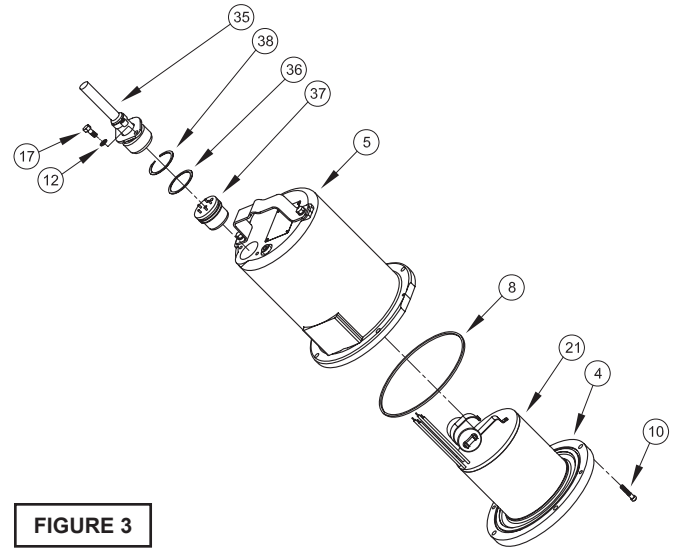
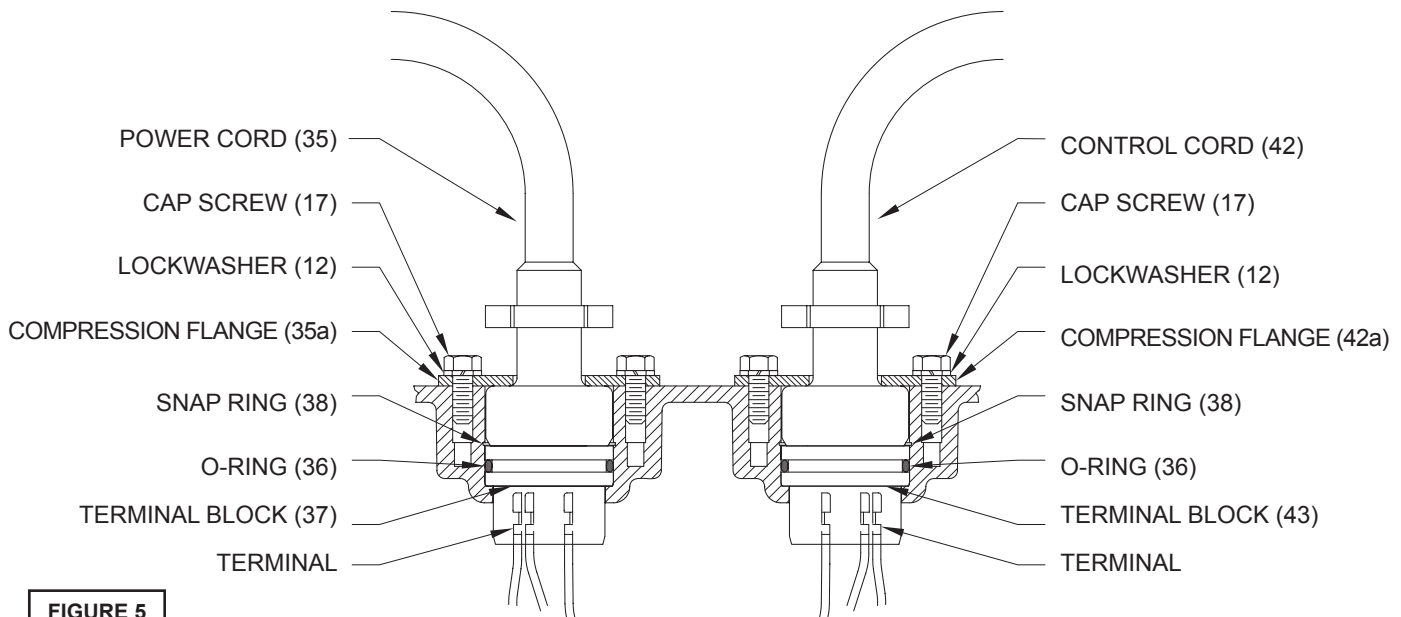

FIGURE 3
FIGURE 5
To examine or replace the motor (21), capacitor (22, single phase units), and bearing (6), drain oil from motor as outlined in paragraph F-1.2. Disassemble volute and impeller as outlined in paragraph F-2.1 and disassemble shaft seal as outlined in paragraph F-4.1. (See Figure 3, 4, and 11) Position unit upright, using blocks to avoid resting unit on shaft. Unscrew cable hex bolts (17) and remove compression flange (35a) and power cord (35). Remove snap ring (38) with a flat head screwdriver. Pull the terminal block (37) out of the housing (5) using a T-bolt or pair of pliers and a .25-20 screw in the threads of the terminal block (37). Be sure to leave slack on the motor leads connected underneath. Use needle nose pliers to pull each female connector off of the pins on the underside of the terminal block (37) (see Figure 5). The unit voltage should be noted. Repeat cable and terminal removal procedure for any control cables (42). Remove socket head cap screws (9). Vertically lift upper pump assembly from seal plate (1) and spacer ring (26) by lifting handle (18). Inspect square rings (8) for damage or cuts. Disassemble inner seal assembly (34) as outlined in
Check power cables (35) and control cable (42), for cracks or damage and replace if required (see Figure 5). Make internal wiring connections which are independent of the terminal block as shown in (Figure 10), using connectors (15), terminal (16) and wire assemblies (19) as required. Do not use wire nuts. Slip motor leads and ground wire through fiberglass sleeve. Lower motor housing (5) down onto seal plate (4) while aligning holes and stringing motor leads through the cable entry bore(s). (Slipping cords inside a 1 ft. length of .5"
Reconnect motor and control leads to the underside of the terminal block(s) (37), (43) as shown in Figure 5. Note that the pins are numbered underneath the terminal block. Place o-ring (36) into groove in terminal block and lubricate with dielectric oil. Press the terminal blocks (37) (42) into the housing so it seats completely below the snap ring groove. Place snap ring (38) into groove in cable entry bore of housing. Repeat terminal block installation for control cable, if equipped.